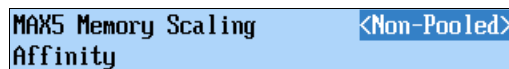

Figure 6-76 UEFI setting for MAX5 Memory Scaling Affinity
16. Select **System Settings** → **Memory** and change the MAX5 Memory Scaling Affinity to **Non-Pooled**, as shown in Figure 6-76.